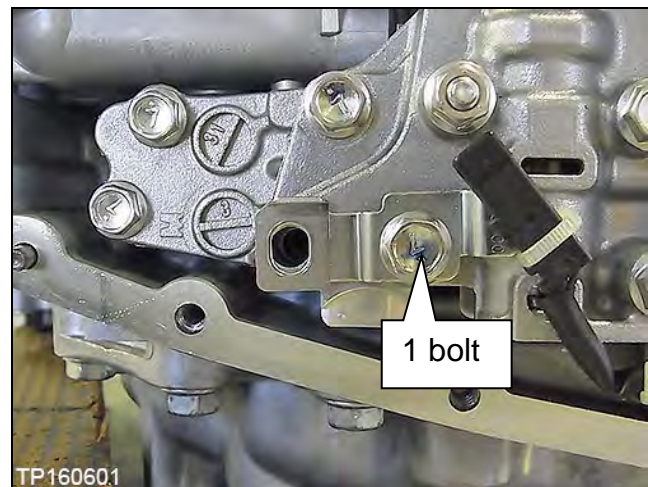

Figure 9J
5. Install the CVT fluid temperature sensor bracket to the valve body with one (1) bolt (Figure 9J).